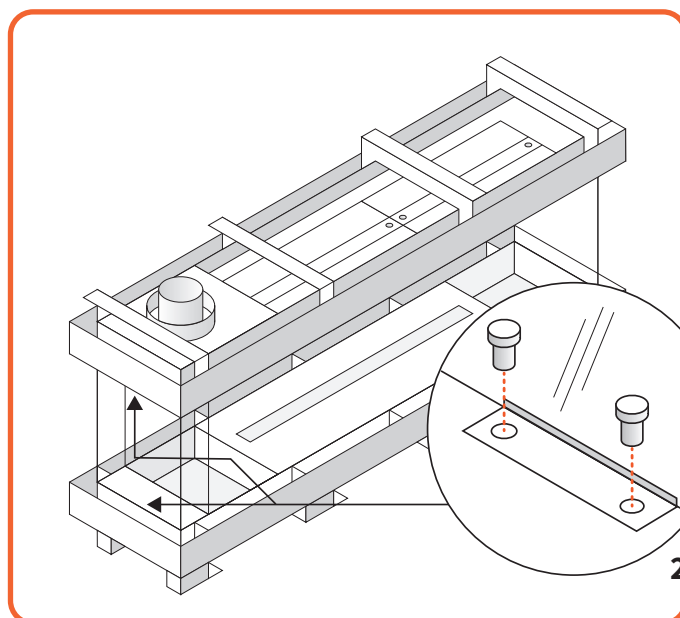
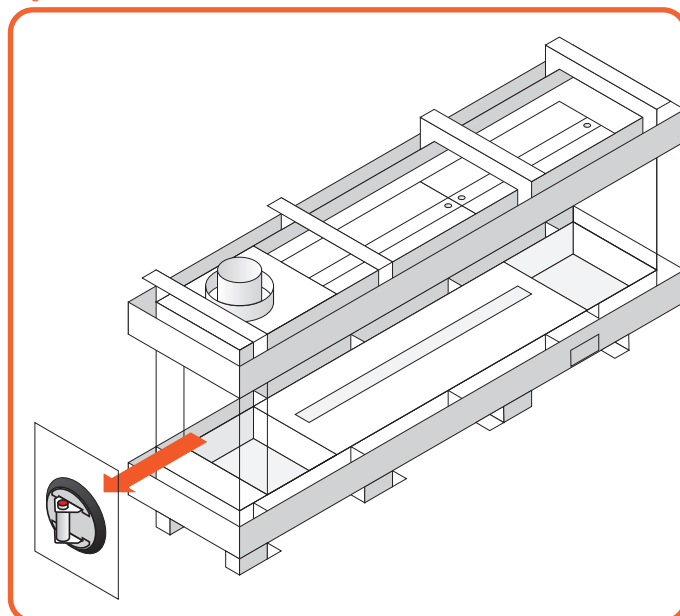

Figure 11.19 | Take out glass clamps for the side windows
Figure 11.20 | Take out short glass
- Repeat these steps as shown in Figure 11.19 to Figure 11.20 for the panes on the ends of the stove.